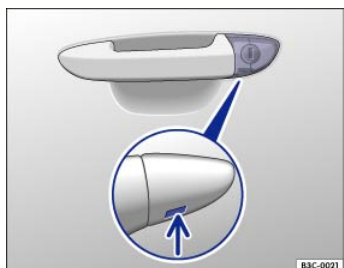

Fig. 199 Door handle on driver door: Concealed lock cylinder.
- Insert the emergency key from below into the opening of the cover cap on the driver door ⇒ Fig. 199 (arrow) and lift the cover cap off. Grasping the door handle and pulling slightly makes it easier to remove the cap.